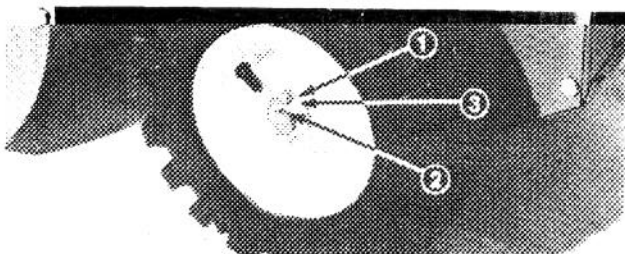

Figure 16
**Axle Pins (Fig. 16)** – Move axle pins to outer axle hole to get free-wheeling characteristic. Push pin through hole in wheel hub and inner axle hole to get direct drive to both wheels.
The snowthrower can be free wheeled or engaged for self propelled operation. When axle pins are through outer axle holes (Fig. 16), snowthrower will free wheel. By contrast, when both pins are installed through holes in wheel hub and inner hole of axle (Fig. 16), snowthrower will self propel itself.